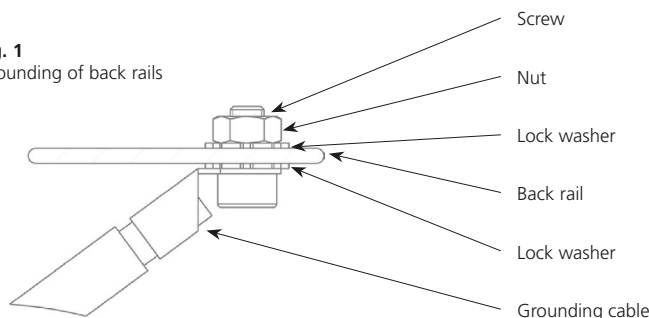

Fig. 2
- AVANCIS requires that the PV modules are mounted using the four mounting areas located on the back rails (marked in gray in figure 2).
- The full length of the SMART clamps must be in contact with the permitted mounting zone of the back rails (marked in gray in figure 2) and need to be fastened with a torque of 20 Nm. The permitted mounting zone comprises the full length of the mounting lip of a back rail with the exclusion of the first 6 cm, measured from the outer end. The permitted mounting zone therefore covers the region between 264 mm and 633 mm as measured from the outer glass edge (see figure 3).
- The optimal position of the SMART clamps is located in the middle of each mounting lip of the back rail and it is recommended for mounting by AVANCIS (figure 2). This provides the maximum stability against mechanical stresses. If there is a deviation from the middle position, the German general building approval Z-70.1-224 has to be considered regarding the resilience (at least in Germany). Further information can be obtained from AVANCIS or the DIBt (Deutsches Institut für Bautechnik).